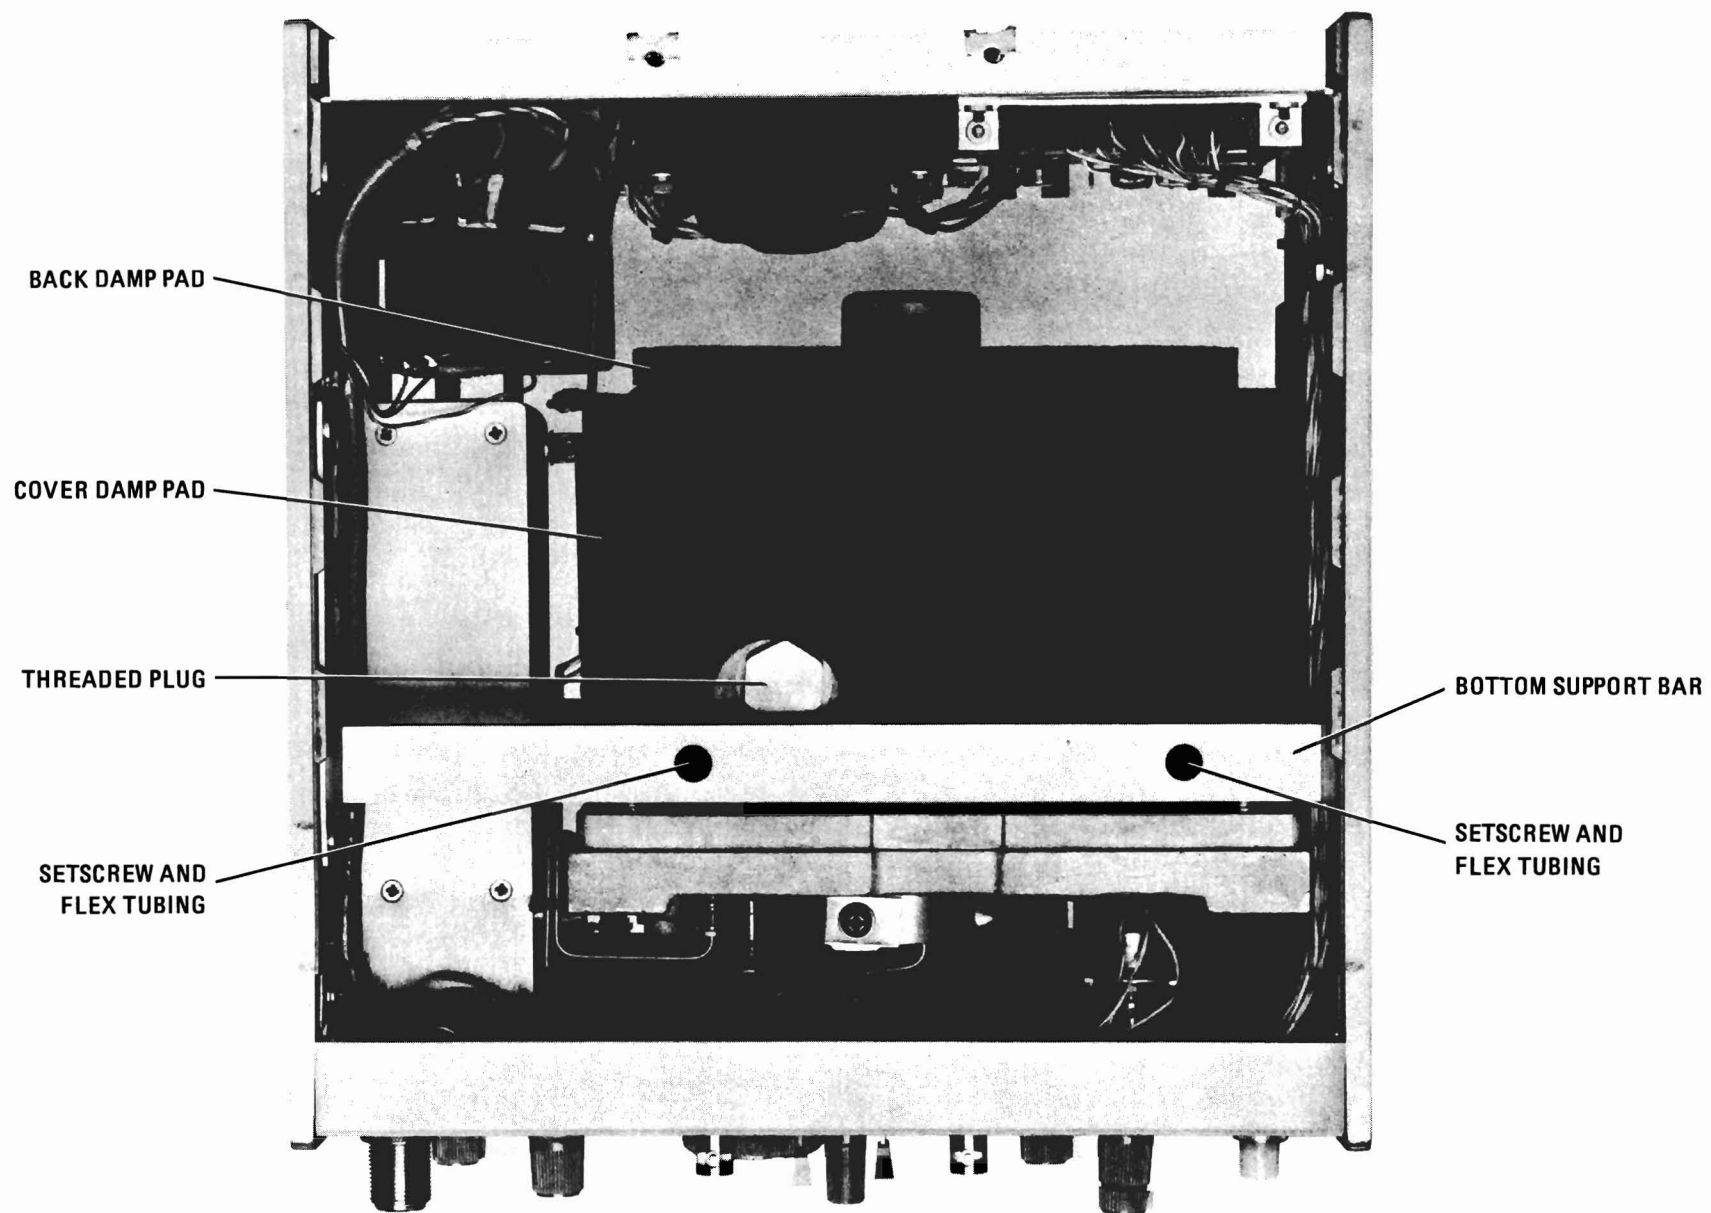

Figure 2. Bottom View with Kit Installed
1. Install bottom support bar (HP 08654-20071) onto bottom of sideframes with four 6-32 x 0.375" flathead screws (HP 2360-0118). See Figure 2.